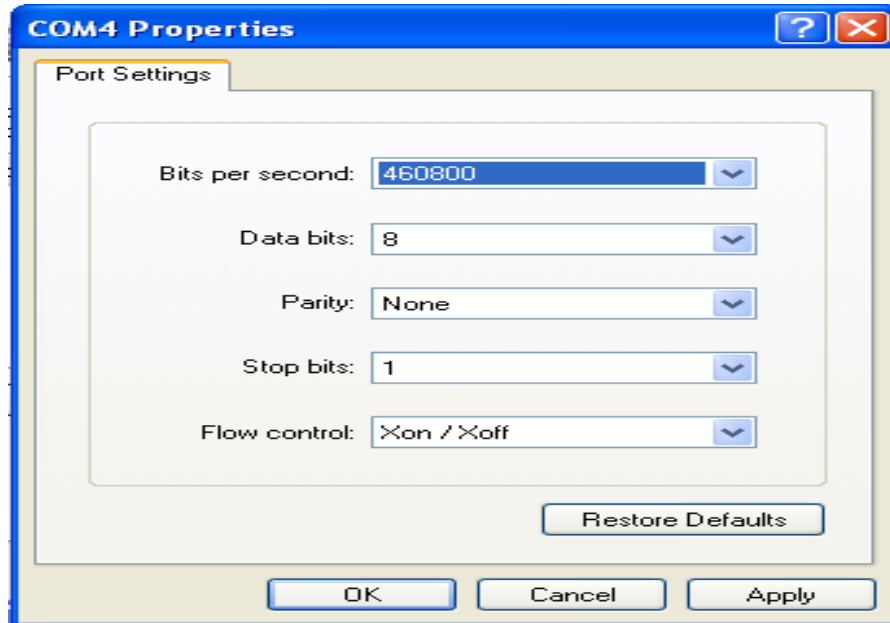

Figure 2-31: Set Communication Options
Step 3: Set the options in Figure 2-31 as shown below.
Step 4: Set the options in Figure 2-31 as shown below.